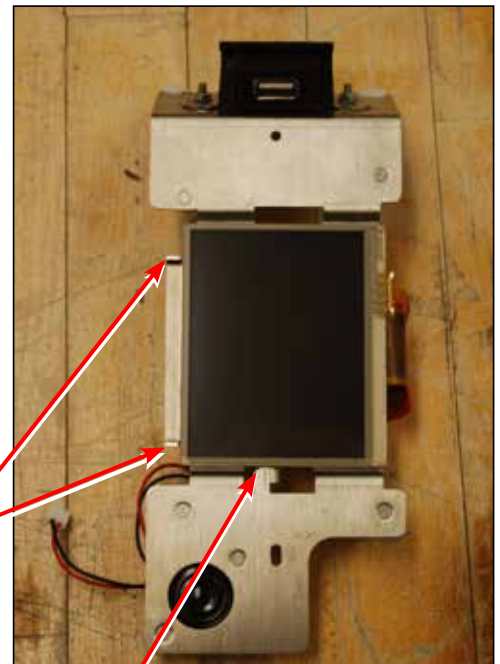

Figure 23f
1. Remove any residual adhesive from the LCD bracket and, using the adhesive strips supplied with the new LCD kit, set the new LCD flush with left and bottom tabs as shown in Figure 23f.